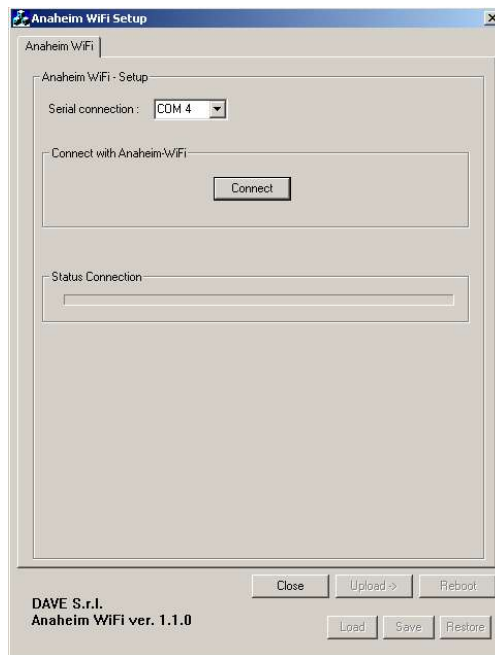

Fig. 8 - Serial connection
3. launch the "Anaheim WiFi Configuration Program" and select the COM port the module is connected to (see also figure 8)